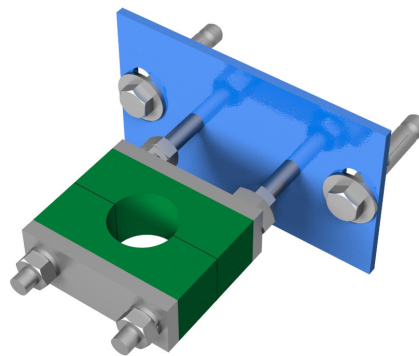

Fig. 9
- A stem support-guide is recommended (fig. 9) every 1.5 m.